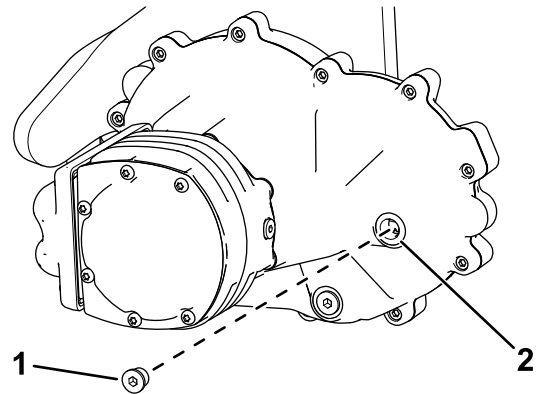

Figure 12
1. Remove the fill-port fitting shown in Figure 12.
3. Install the fitting into the fill port (Figure 12).